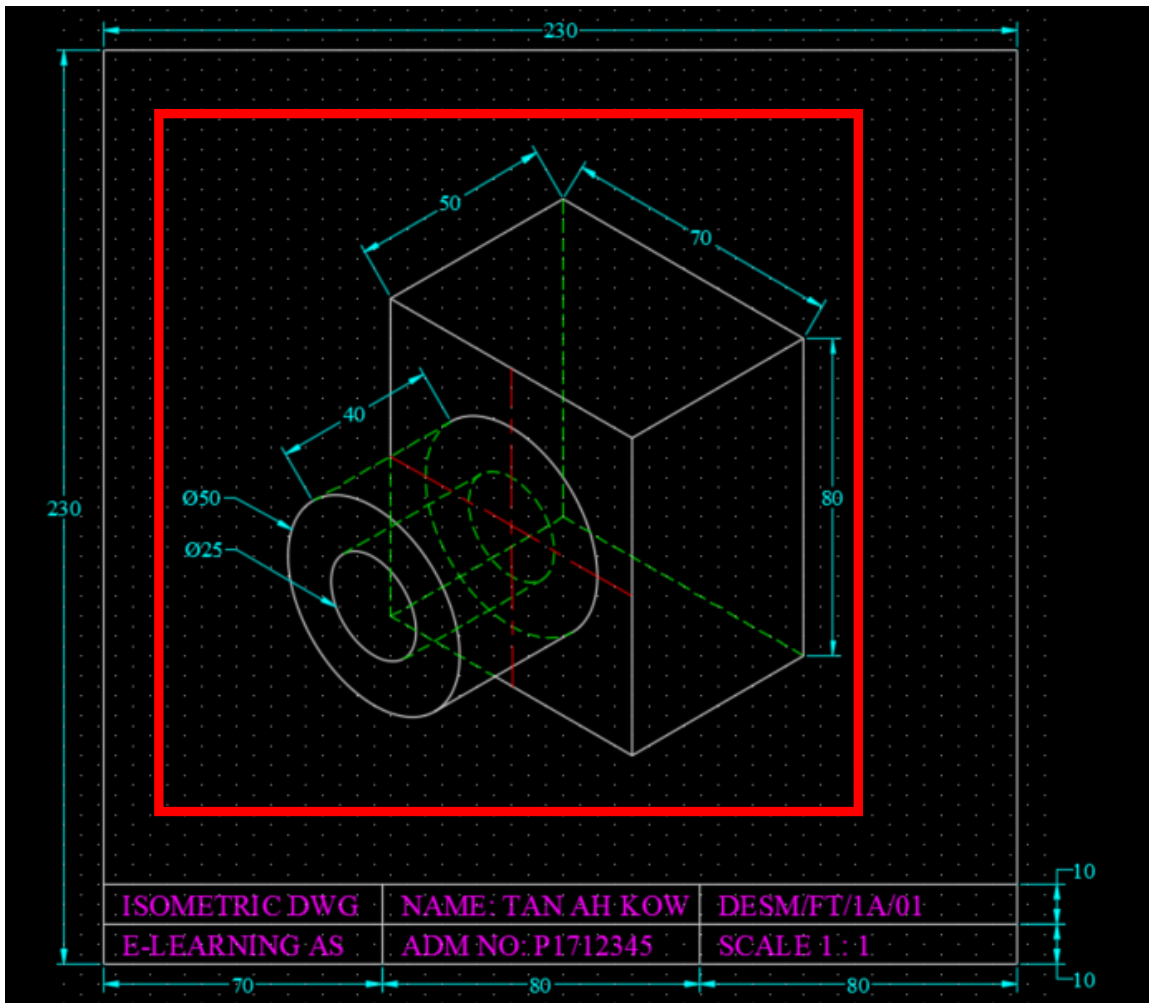

FIG 14
15. Draw the dimensions using Dimension Aligned (4 places) and Dimension Leader (2 Places) as shown in Fig 14. Insert all dimensions in Layer Dimension (Cyan):